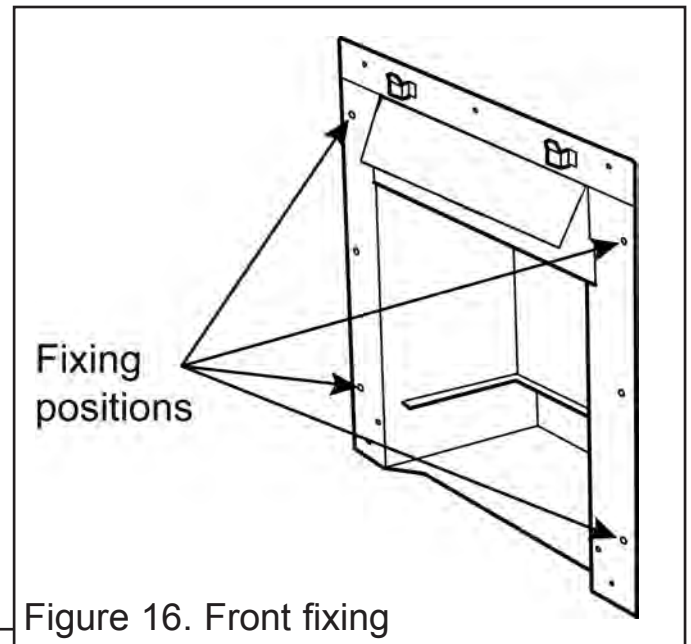

Figure 16. Front fixing
3. Mark the fireplace front surround through the four fixing holes in the side flanges of the convection box (See figure 16).